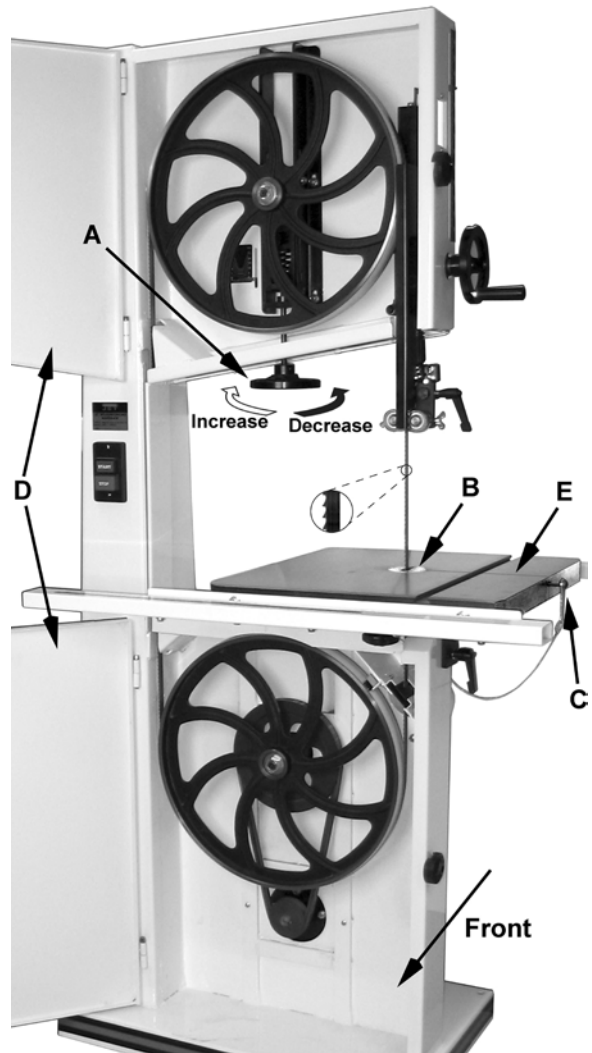

Figure 17
2. Decrease blade tension by rotating the *blade tension handwheel* (A, Fig. 17) according to the arrow direction in until the handwheel stops.
3. Remove the *table insert* (B, Fig. 17).
4. Remove the *tapered pin* (C, Fig. 17) by using the wrench attached with the pin together.
6. Open *upper and lower front doors* (D, Fig. 17).
8. Guide new blade through *table slot* (E, Fig. 17). Place blade in upper and lower blade guides.
**Note:** Make sure blade teeth point down toward table (see inset, Fig. 17), and toward the front of the saw.
10. Replace the *table insert* (B, Fig. 17) and *tapered pin* (C, Fig. 17).